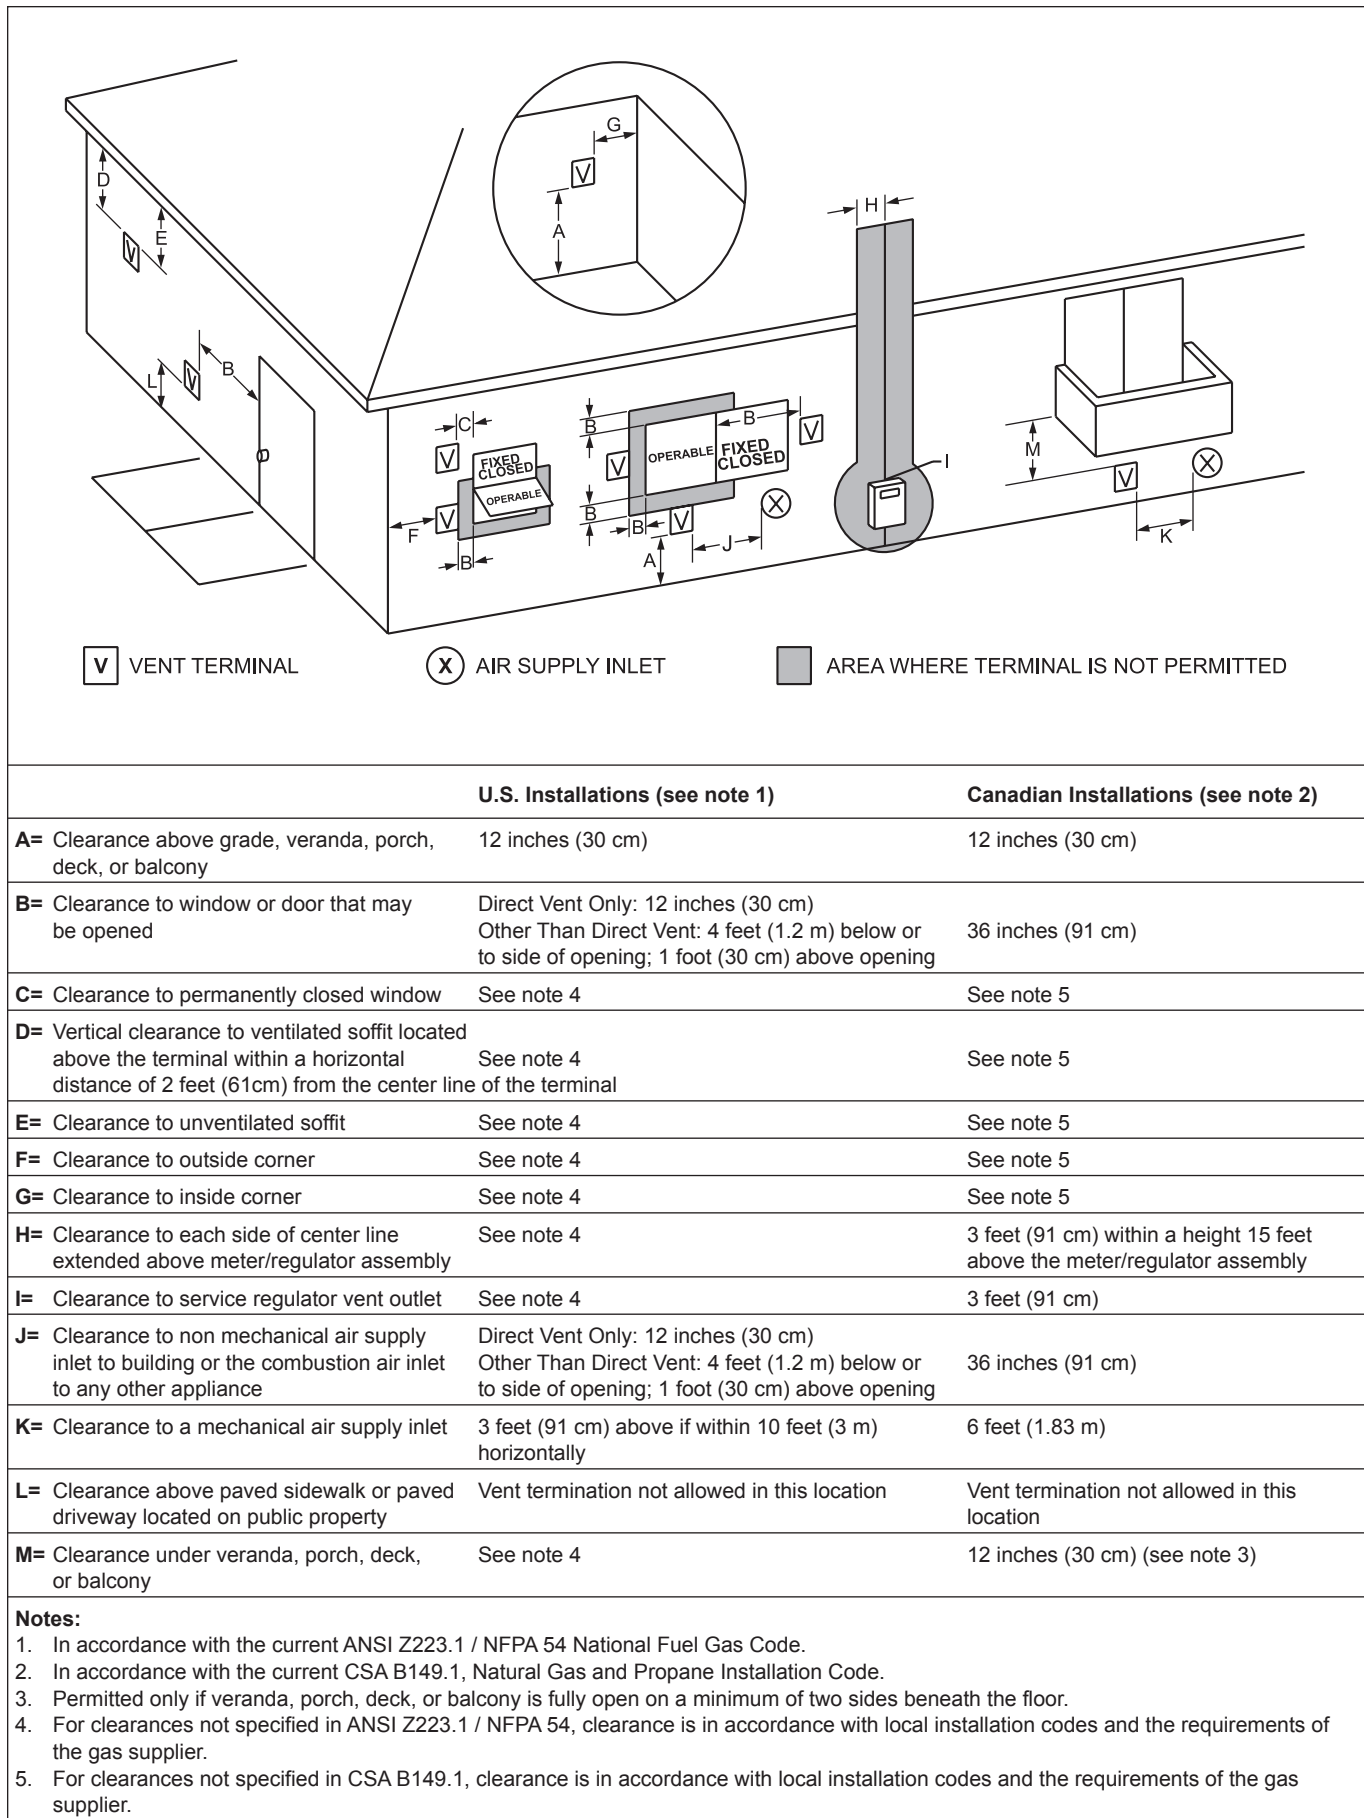

Figure 3. Vent Terminal Clearances.
1. Figure 3 shows the requirements for mechanical vent terminal clearances for the U.S. and Canada.
4. If the Copper Brute II is side-wall vented to the same wall, locate the vent terminal at least 3 feet (0.9m) horizontally from the combustion air terminal, and locate the vent terminal at least 1 foot (0.3m) above the combustion air terminal (see Figure 3).